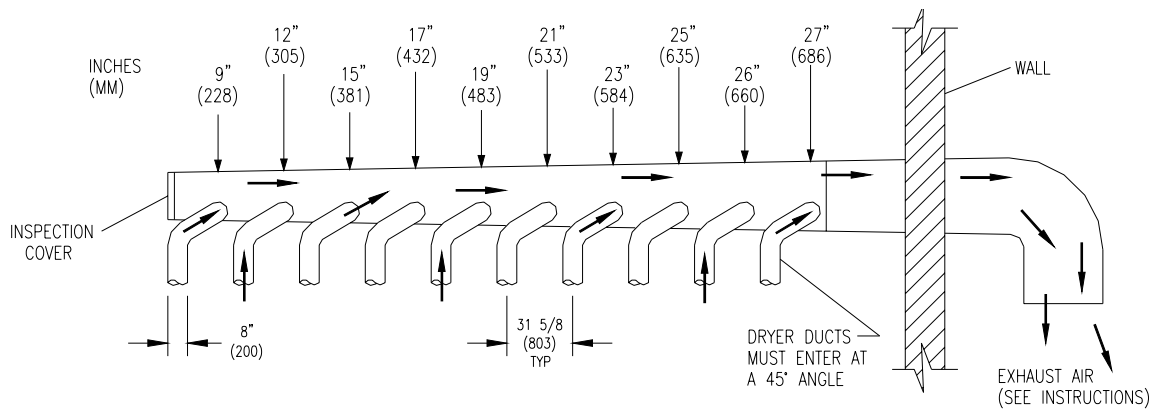

FIGURE 2- Dryer Exhausting Using A Main Discharge Duct.
Dryer Exhaust System (Figure 2).....	6, 7
6. **EXHAUST INSTALLATION.** (Refer to Figure 2 at the end of section 6.) Exhausting of the dryer(s) should be planned and constructed so that no air restrictions occur. Any restriction due to pipe size or type of installation can cause slow drying time, excessive heat, and lint in the room.
Installation of several dryers, where a main discharge duct is necessary, will need the following considerations for installation (see Figure 2). Individual ducts from the dryers into the main discharge duct should be at a 45 degree angle in the direction of discharge air flow.
NOTE: Never install the individual ducts at a right angle into the main discharge duct. The individual ducts from the dryers can enter at the sides or bottom of the main discharge duct. Figure 2 indicates the various round main duct diameters to use with the individual